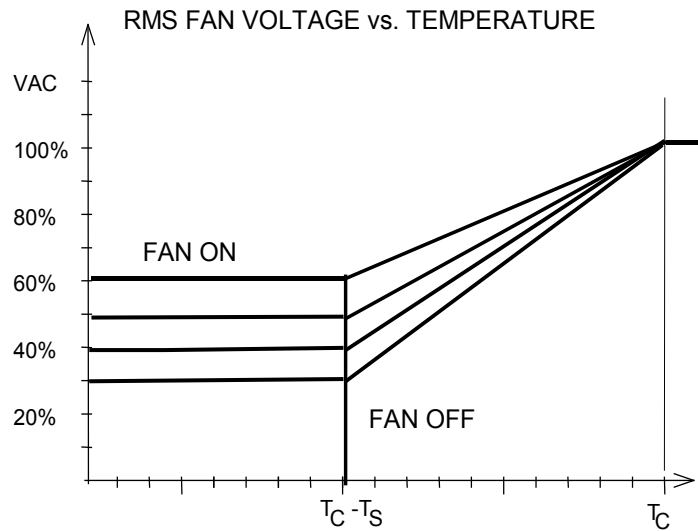

Figure 7
**Setting Idle Speed (switch #2,3):** The idle speed is the minimum voltage (as a % of supply voltage) supplied to the fan. The Nimbus is factory set for idle speeds of 30, 40, 50 and 60% by setting DIP switches 2 and 3, see table #3. The default setting is at 50%. Other idle speeds can be supplied, contact customer service for details. See figure 7.
**Temperature Slope (switch #6):** The temperature slope ( $T_s$ ) is the temperature difference between idle speed and full speed. The slope can be set at 4°C or 10°C by using DIP switch #6. The default setting is 4°C. Other slopes can be supplied, contact customer service for details. See figure 7.
**Fan On / Fan Off Feature (switch #1):** To turn fans off automatically when temperatures drop below the set idle temperature ( $T_c - T_s$ ), set switch #1 to the ON position. To keep fans running at idle speed below the set idle temperature, set switch #1 to the OFF position. See figure 7.